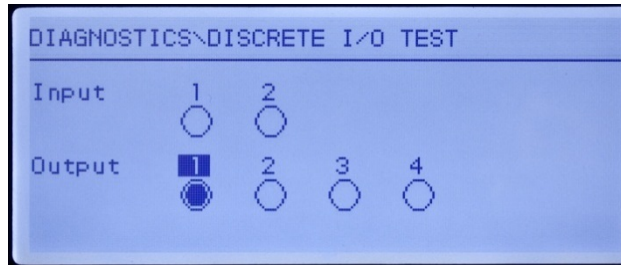

Figure 5-8: Discrete I/O Test Screen, Output 1 Active
3. Focus for control of a specific output is indicated by reverse video of the number above the output. When an output is in focus, pressing the UP navigation key turns the output ON. A smaller, solid circle is shown to indicate that output is ON. This is shown in Figure 5-8.